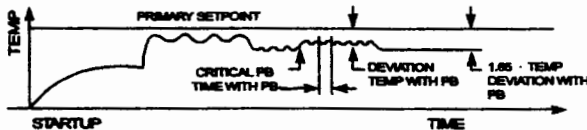
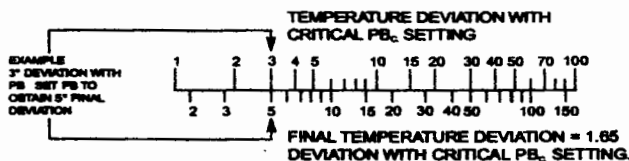

Figure 3. Calculating Final Temperature Deviation
Figure 4. Nomogram I
The desired final temperature deviation can be calculated by multiplying the initial temperature deviation achieved with the CRITICAL PB setting by 1.65 (see Figure 3) or by use of the convenient Nomogram I (see Figure 4). Try several trial-and-error settings of the PB control until the desired final temperature deviation is achieved.
2. Increase the PB setting until the temperature deviation (droop) increases 65%. *maximum k_p* Nomogram 1 (see Figure 4) provides a convenient method of calculating the desired final temperature deviation.